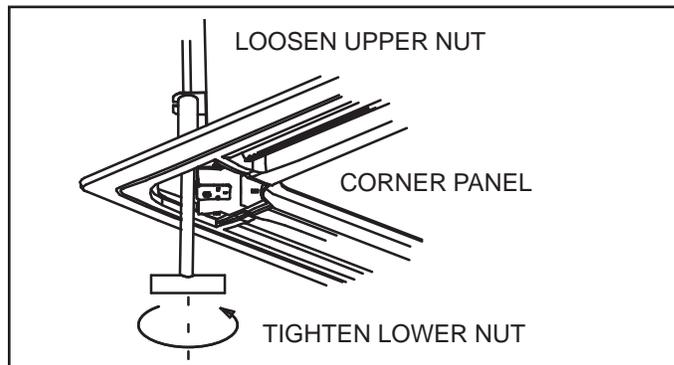

Figure 24. Adjust Unit Height Through Corner Panel
11. If it is necessary to adjust the cassette height after the cover panel has been installed, access the leveling nut through the removable access cover on each corner. See Figure 24.